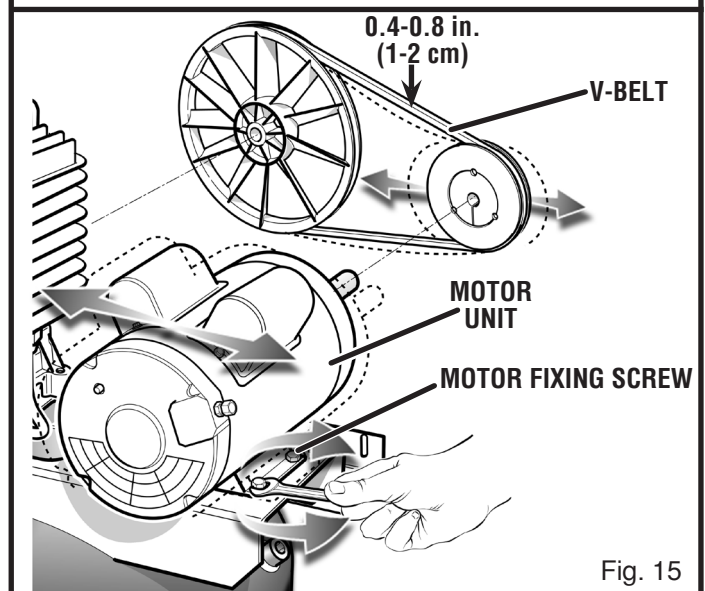

Fig. 15
- Loosen the four motor fixing screws (figure 15) and remove the belt.